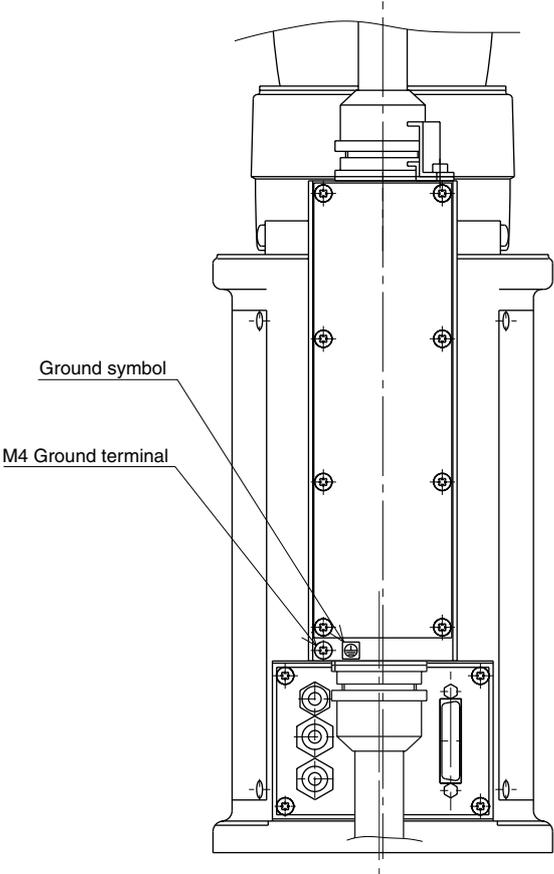

Fig. 3-7 Ground terminal
- 1) Provide a terminal marked "PE" for the protective conductor of the entire system and connect it to an external protective conductor. In addition, securely connect the ground terminal on the robot pedestal to the same protective conductor. (See Fig. 3-7 for example of the YK500X.)